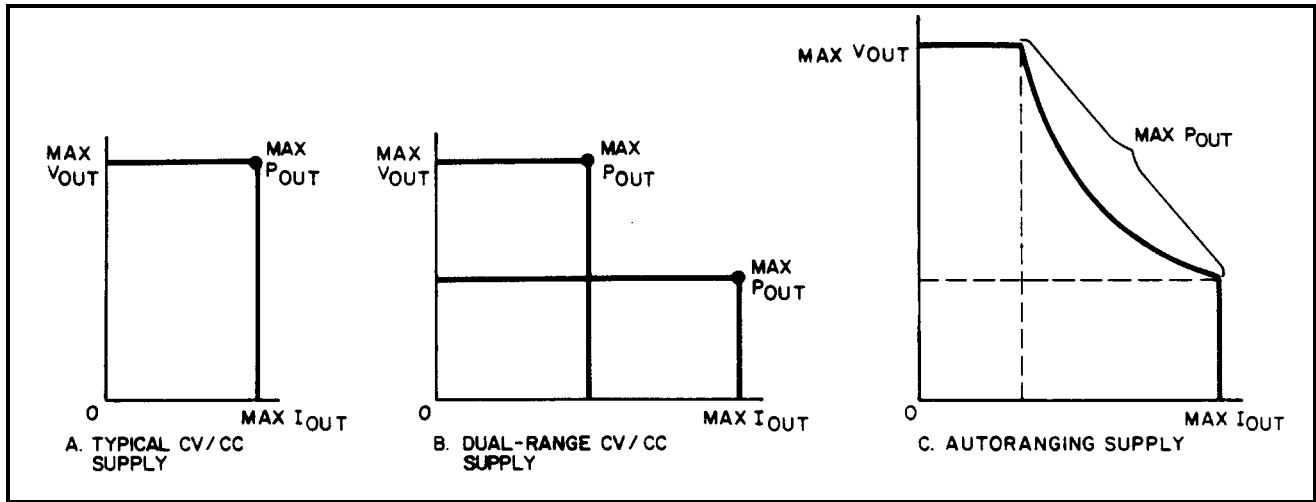

Figure 4-3. Output Characteristics; Typical, Dual Range, and Autoranging Supplies
Primary current is approximately proportional to output power, and POWER LIMIT turns off the PWM when the CONTROL V LIMIT would otherwise allow the unit to deliver more than about 200 watts. This occurs during transient load increases, step increases in CV PROGRAM VOLTAGE and when the combination of the CV PROGRAM VOLTAGE and the CC PROGRAM VOLTAGE calls for more than 200 watts. The power-limit comparator produces the power-limited portion of the unit's output characteristic curve in Figure 4-3 and is the essence of the unit's autoranging characteristic.
2. RELAY COILS AND RELAY CONTACTS ARE SHOWN IN FIGURE 4-3.